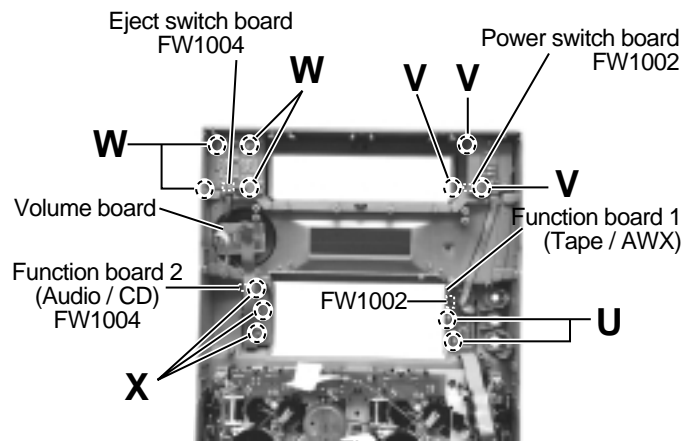

Fig.33
■Removing each board in the front panel assembly (See Fig.33 to 35)
~Function board 1~ (Fig.33 and 35)
~Function board 2~ (Fig.33)
~Volume board~ (Fig.33 and 34)
~Power switch board~ (Fig.33 and 35)